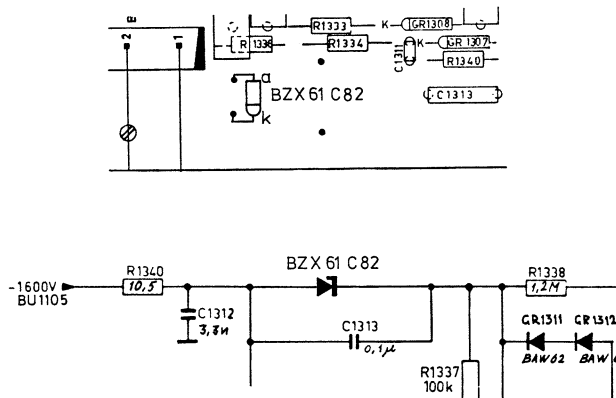

Fig. 1. Part of Z-unit (fig. 3.35 and 3.37 of the manual)
- The zenerdiode must be mounted as indicated in fig. 1.